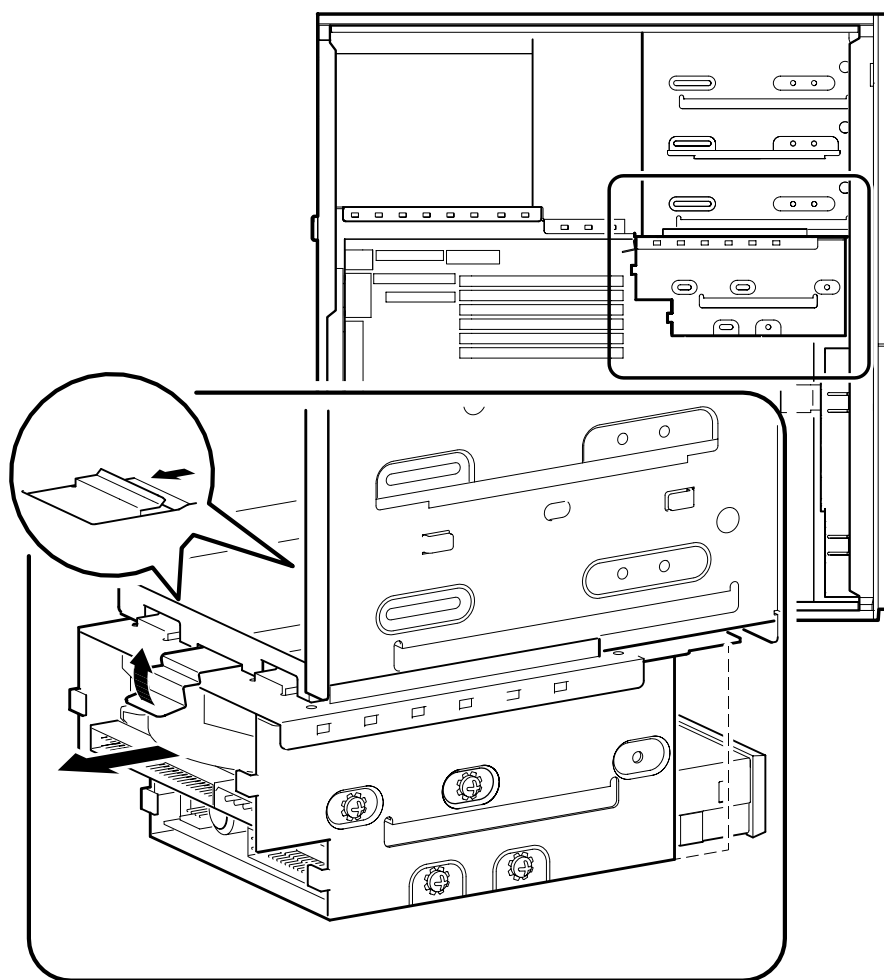

Figure 3-13. Removing the Lower Drive Bay Assembly
4. Lift the retaining clip at the rear top of the drive bay assembly and slide the assembly to the rear of the system unit (Figure 3-13).